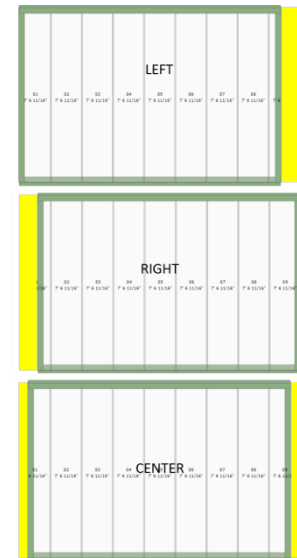

**Figure 1:** The *Roof Margin* and *Roof Offset* fields determine the placement of panels on the roof plane.
- **Roof Margin** – The *Roof Margin* field defines where panels end, relative to the base of the roof plane. (See Figure 1 at right.) Enter the distance to extend or retract panels from the base of the roof plane. Use a positive value (feet and inches) to extend the panel beyond the base, and a negative number (e.g. -6") to retract the panels from the base of the plane. NOTE: This value affects panel length.
- **Roof Offset** – Defined in feet and inches, the **Roof Offset** field identifies the placement of the first panel, relative to the left edge of the roof plane. (See Figure 1 on previous page.) Enter a positive value – in feet and inches – to have the first panel extend beyond the left edge of the roof plane. Enter a negative value – in feet and inches – to retract the first panel from the left edge of the roof plane.